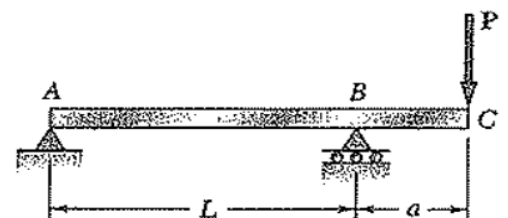

Fig. 5
6. The overhanging steel beam ABC carries a concentrated load P at end C as shown in Fig. 5. For the portion AB of the beam (i) derive the equation of the elastic curve, (ii) determine the maximum deflection, (iii) evaluate $y_{\max}$ for the following data: $I = 300 \times 10^6 \text{ mm}^4$, $E = 200 \text{ GPa}$, $P = 200 \text{ kN}$, $L = 4.5 \text{ m}$, $a = 1.2 \text{ m}$.